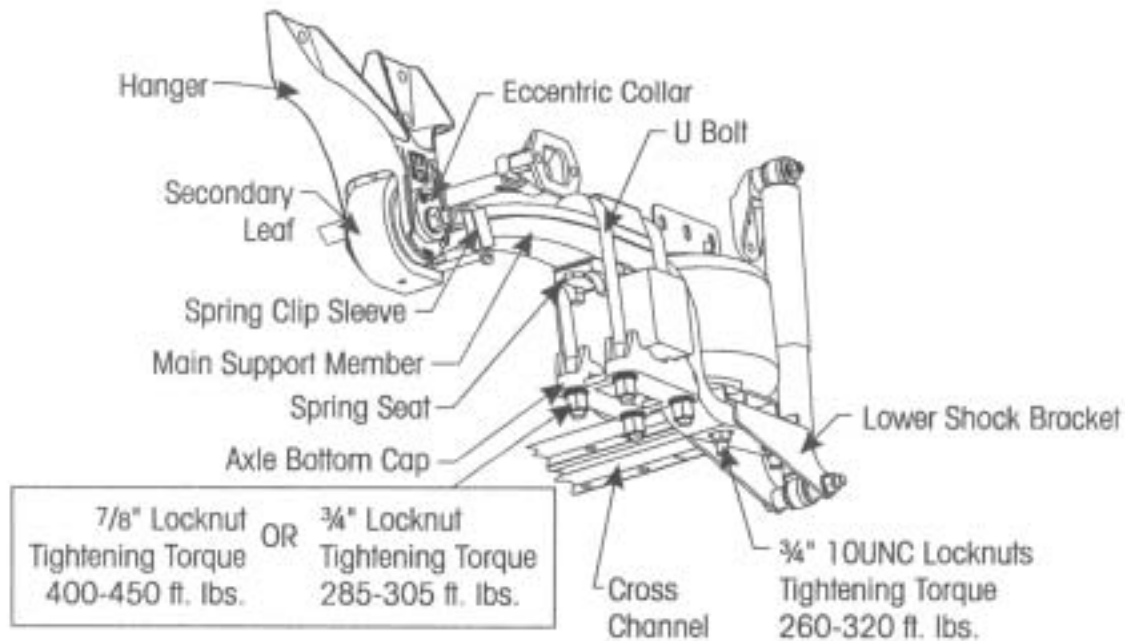

Figure 7.2
5. Remove the 1" pivot bolt, nut and QUIK-ALIGN collars that connect the main support member assembly to the frame hanger. See **Figure 7.2**.